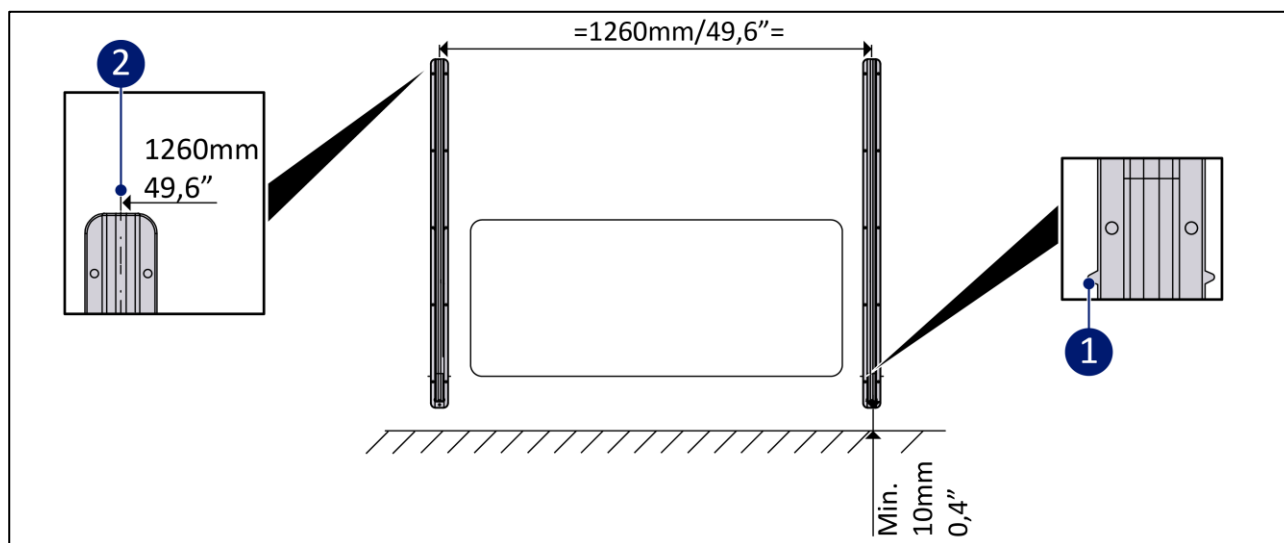

Figure 4-4: Installing the Fenno slider rails.
- the mark on the Fenno slider rail (Figure 4-4, pos. 1) must be at the bottom of the cut-out passage;
- make sure that the center to center of the Fenno slider rails (Figure 4-4, pos. 2) is 1260mm/49,6".